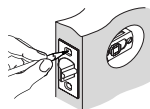

Figure 3c
- Insert Latch in hole keeping it parallel to face of door. Mark outline and remove Latch (Figure 3c).